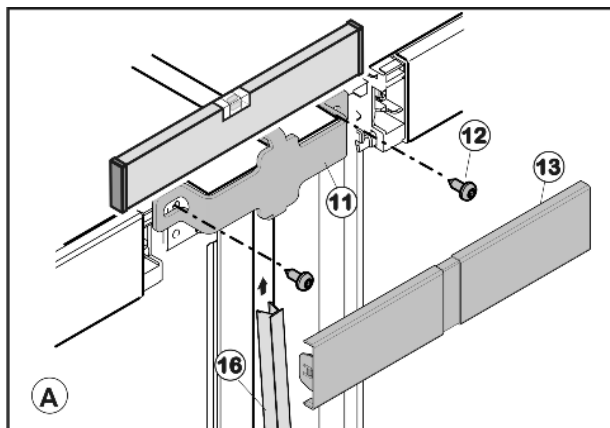

Fig. 62
- Secure upperconnecting element Fig. 62 (11) using two screws Fig. 62 (12). Make preliminary holes (optional) or use a cordless screwdriver.
- Clip on cover panel Fig. 62 (13).
- Fit strip Fig. 62 (16), push it slightly under the top cover Fig. 62 (13) and then press it downwards into the gap.